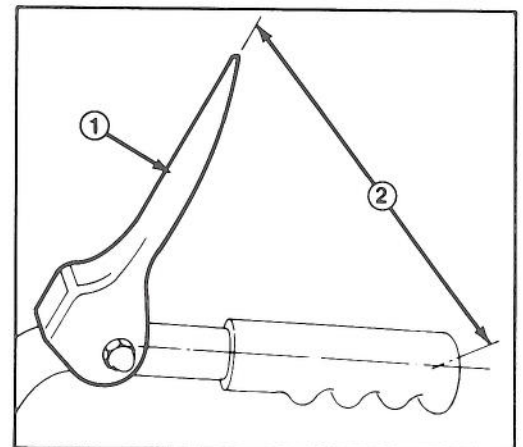

Figure 4
5. Slowly pull machine backward while slowly depressing traction control lever toward handle. Adjustment is correct when wheels stop turning and the distance between the top of the traction control lever and the center of the handle is 4½ inches (11.5 cm) (Fig. 4).